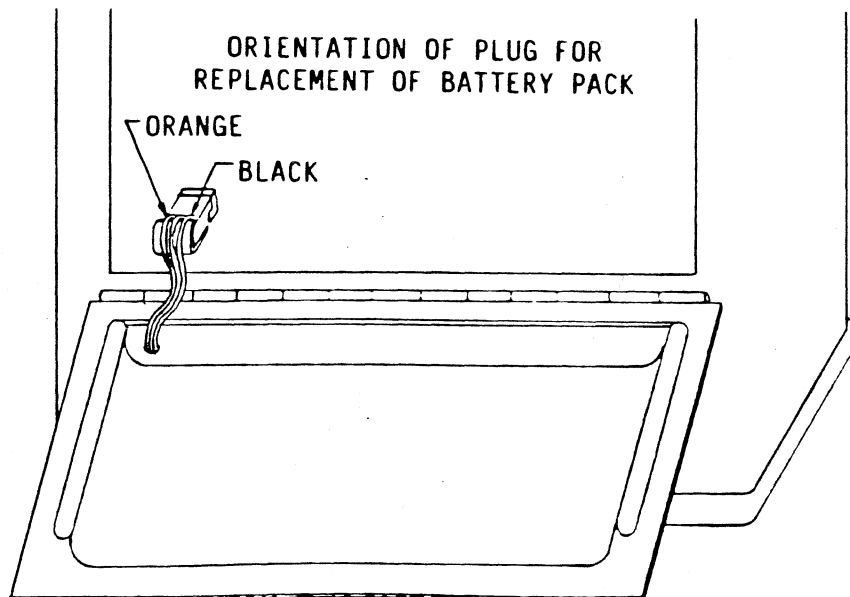

Figure D.1 Battery Plug Orientation
3. Disconnect the cable at J2 between the battery pack and the power supply board (refer to figure D.1).